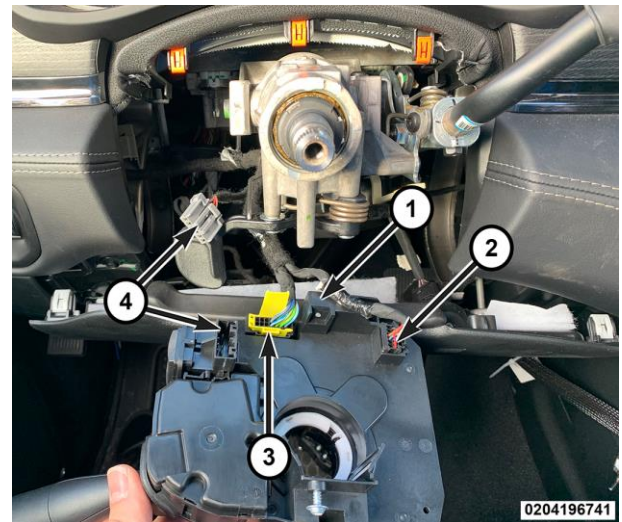

Figure 15 – SCCM Removal
27. Remove the SCCM from the steering column (Figure 15).
28. Disengage the wire harness routing clip (1) (Figure 15).
29. Disconnect the wire harness connectors (2 & 3) (Figure 15).
1. Connect the wire harness connectors (2&3) (Figure 15).
2. Secure the wire harness routing clip (1) (Figure 15).